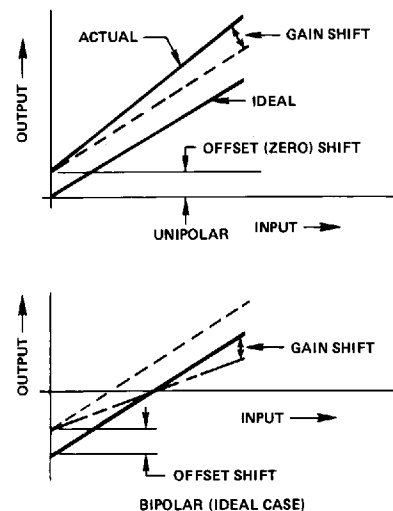

Figure 3. Unipolar and Bipolar Drifts
Temperature error analysis in the unipolar mode is straightforward: there is an offset drift and a gain drift. The offset drift (which comes from leakage currents and drift in the output amplifier (OA)) causes a linear shift in the transfer curve as shown in Figure 3. The gain drift causes a change in the slope of the curve and results from reference drift, DAC drift, and drift in  $R_{GAIN}$  relative to the DAC resistors.
Note that if the DAC and application resistors track perfectly, the bipolar offset drift will be zero even if the reference drifts. A change in the reference voltage, which causes a shift in the bipolar offset, will also cause an equivalent change in  $I_{REF}$  and thus  $I_{DAC}$ , so that  $I_{DAC}$  will always be exactly balanced by  $I_{BP}$  with the MSB turned on. This effect is shown in Figure 3. The net effect of the reference drift then is simply to cause a rotation in the transfer around bipolar zero. However, consideration of second order effects (which are often overlooked) reveals the errors in the bipolar mode. The unipolar offset drifts discussed before will have the same effect on the bipolar offset. A mismatch of  $R_{BP}$  to the DAC resistors is usually the largest component of bipolar drift, but in the AD DAC80 this error is held to 10ppm/°C max. Gain drift in the DAC also contributes to bipolar offset drift, as well as full scale drift, but again is held to 10ppm/°C max.